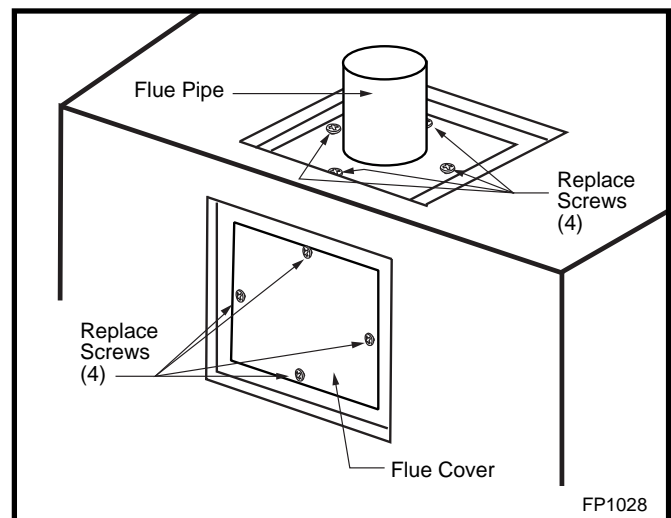

Fig. 13 Flue cover and flue pipe location.
7. Install the flue pipe and gasket removed in Step 5 over the flue opening in the top of the intake box. (Fig. 13)
8. Refit the outer collar adapter and gasket to the unit with the round collar on the top. Secure the adapter with the ten (10) screws removed in Step 1.